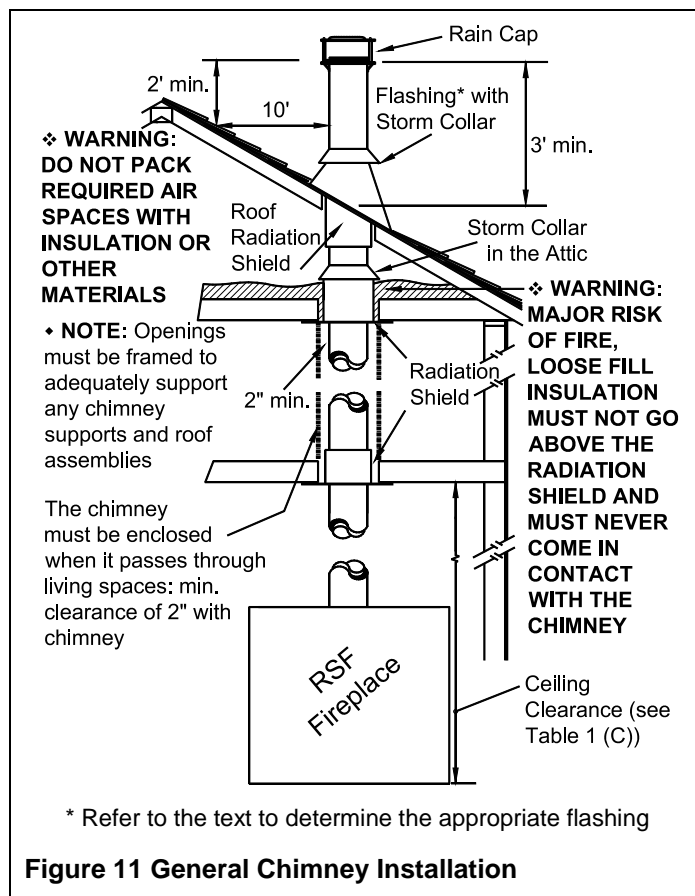

Figure 11 General Chimney Installation
- From below, install a radiation shield in each floor through which the chimney passes. At the attic level, install a radiation shield and a storm collar as shown in Figure 11.